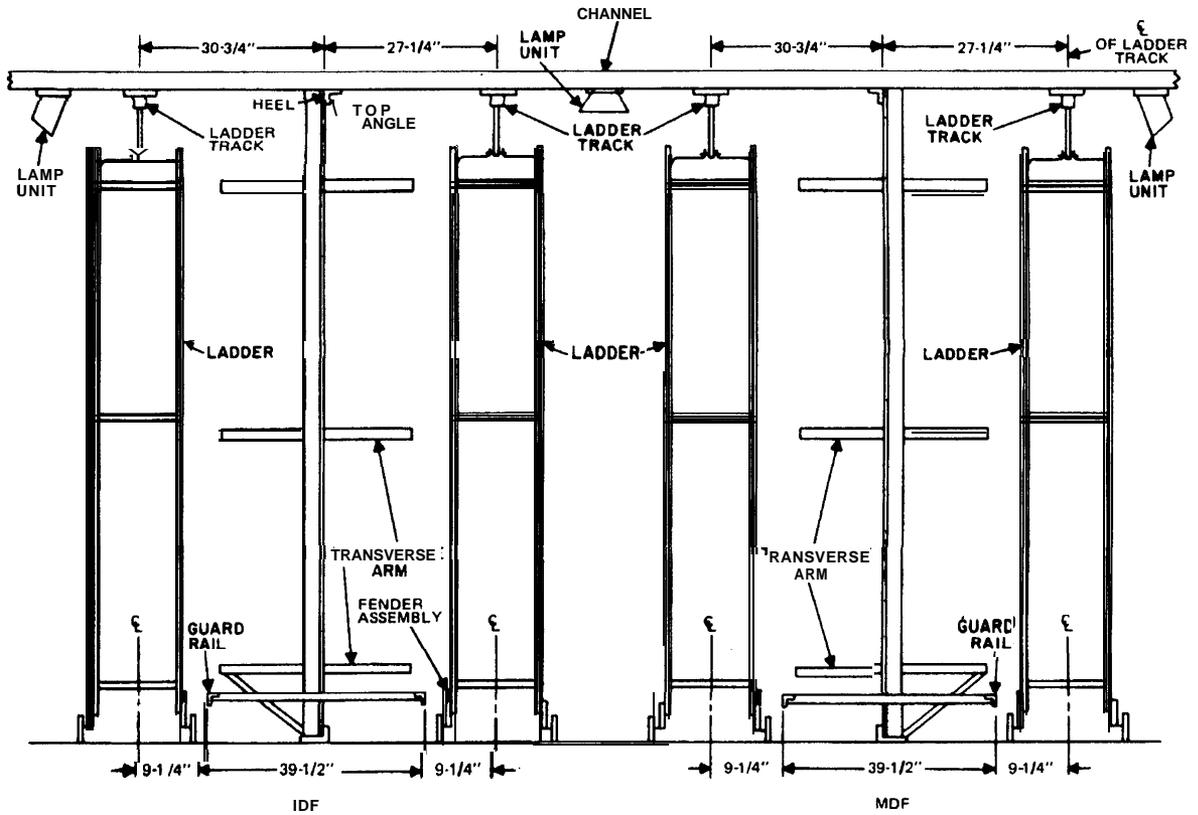
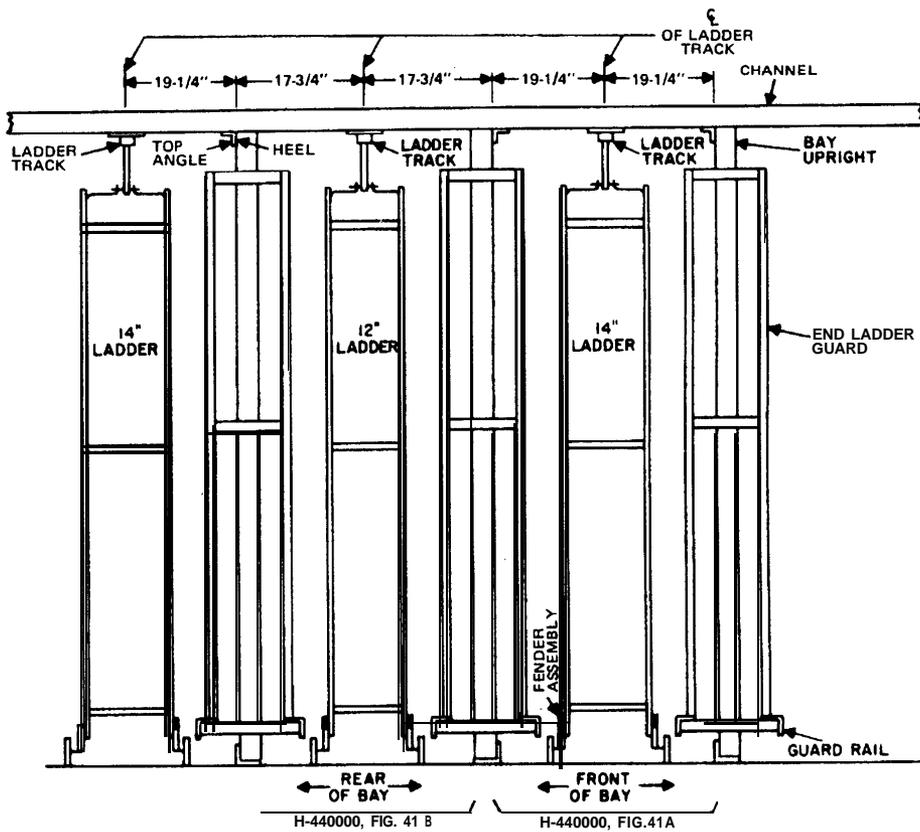
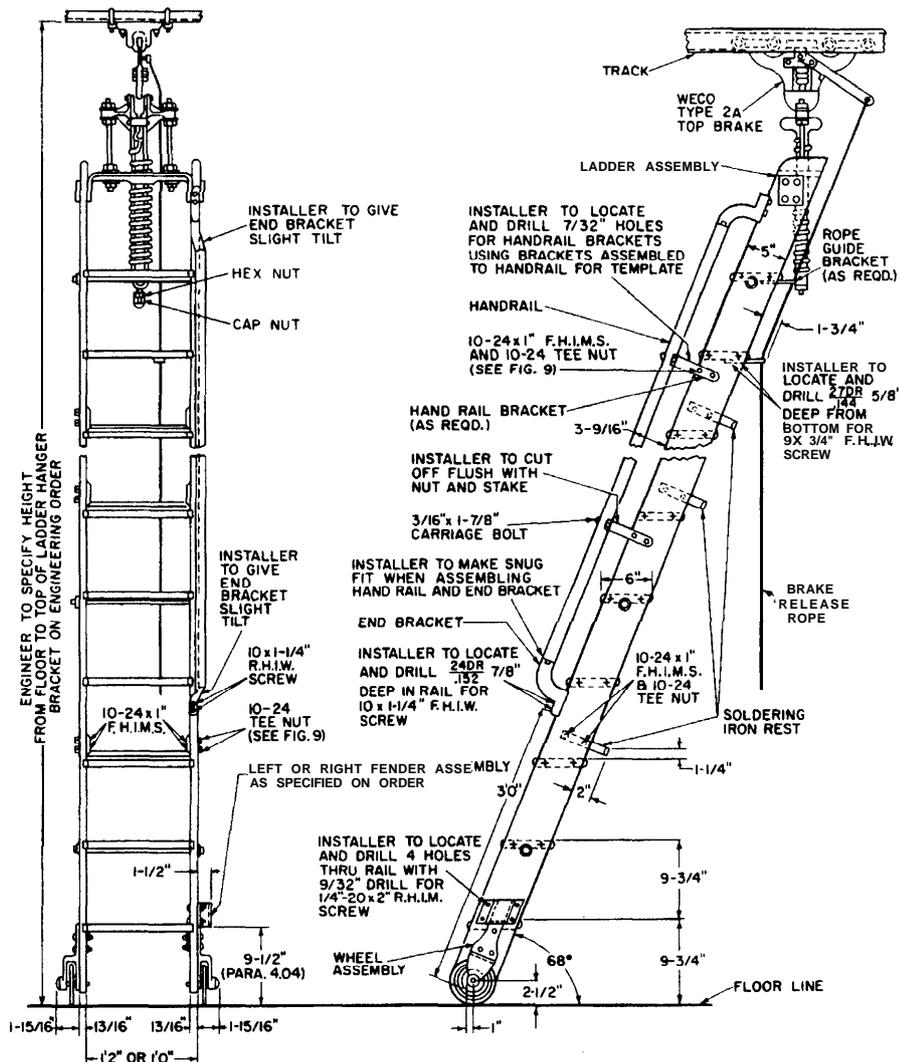

Figure 3. Typical Dimensions Between Distributing Frames and Ladder Track.
Figure 4. Typical Dimensions Between Trunk Boards and Ladder Track.
Figure 7. Ladder Assembly Showing Handrail on Right Side.
2.07 Figure 3 shows the typical dimensions between distributing frames and ladder track. One dimension in the figure shows a measurement from the heel of the top angle of the GTE AE standard 39-1/2 inch wide distribution frames to the center of the ladder track. Also shown is the minimum 9-1/4 inch dimension that is necessary to separate the side of the ladder from the guardrail. Figure 4 shows the typical dimensions between trunk boards and ladder track. The dimension in this figure indicates a measurement from the heel of the top angle of the trunk boards to the center of the ladder track. For standard front and rear aisle dimensions on electromechanical systems, see H-440000-A, Figure 41.
4.03 The ladder shall be assembled as shown in Figures 7 through 12, and the ladder attachments shall be mounted as shown in Figures 13 through 17.
4.04 The 9-1/2 inch dimension shown in Figure 7 as the distance from the floor to the bottom of the fender assembly, is used where the top of the guardrail on the distributing frame is 11 inches from the floor. If the guardrail's height dimension is different, position the fender assembly on the ladder so that it will be approximately in the middle of, and opposite to, the guardrail.
4.10 Figures 7 and 15 show two different brake release installation methods. Figure 7 shows that the rope guide brackets are attached to the underside of the top two ladder steps, and Figure 15 shows that the brake release rope is installed on the side of the ladder opposite the frame. The alternate method in Figure 15 requires the use of a pulley located just above the top ladder step, a rope guide bracket attached to the underside of the ninth step, and a rope tie bracket mounted on the outside of the ladder at the fifth step.
5.05 Install ladders at the distributing frames as shown in Figure 3. Observe the designated slope of the ladders and make certain that the handrails are on the outside of the ladder (Figures 7 and 8).